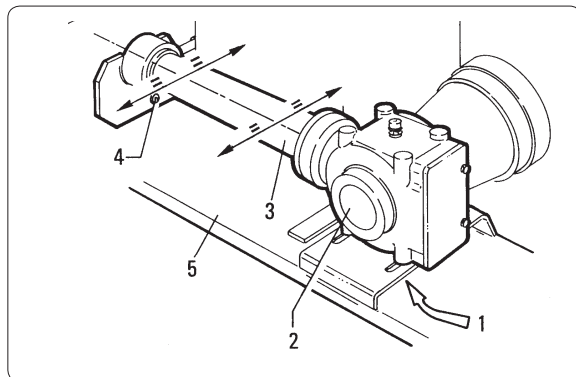

fig. 7.8.2
- 1 - *slacken bolts "1" fig. 7.8.2 that fix the gearbox and bolt "4" that locks the chassis extension in place.*